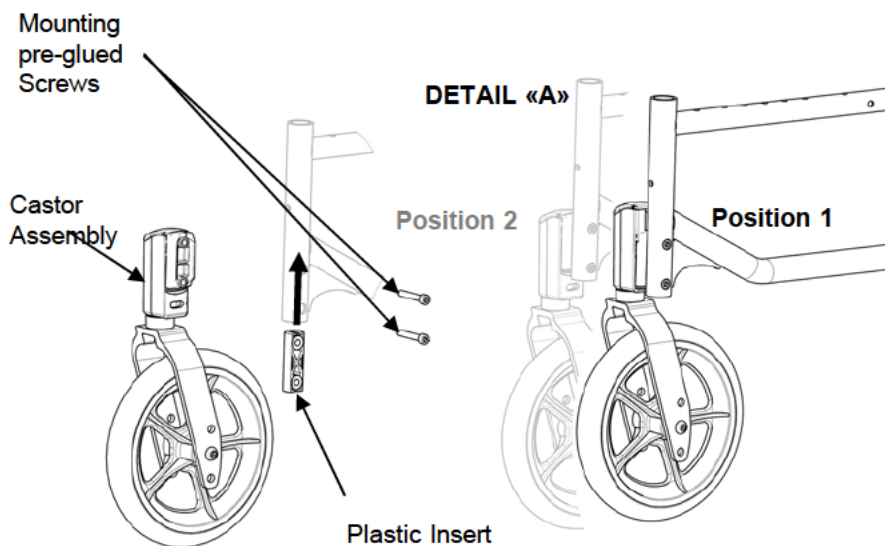

FIGURE 5.11 Adjusting Castor Height Position
NOTE: For this procedure, refer to FIGURE 5.11.
2. Move the castor housing assembly to one of two positions. Refer to Detail "A" of FIGURE 5.11. Always check that the plastic insert is present before tightening the mounting screws.